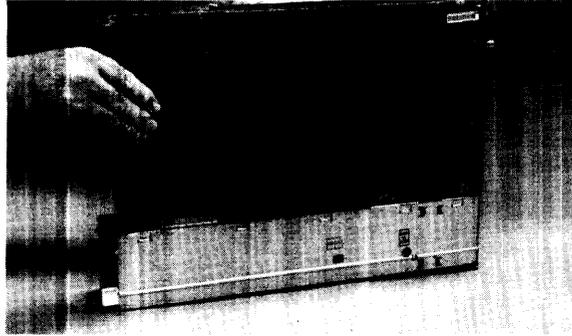

Figure 2-7. Positioning Power Supply and Internal Assembly for Installation
2. Set the power supply on its left side and position the processor board (or the rest of the internal assembly) as shown in Figure 2-7.